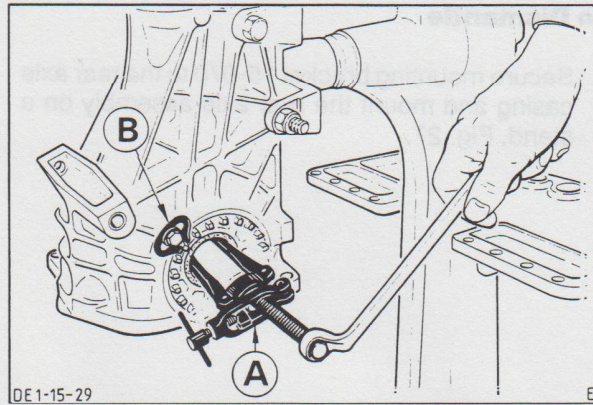

Fig. 29. A - Remove bearing housing oil seal
- Withdraw the oil seals from the differential bearing housings using Special Tool 15-048, Fig. 29.
- Remove the differential bearing housing retainers, Fig. 29.